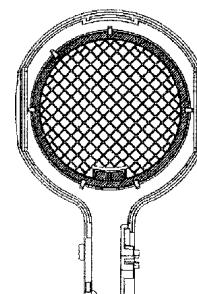

Figure 5
4. Set air outlet grill and outlet ring to heater block by aligning rib of air outlet ring and slot of front housing as shown in Figure 5.